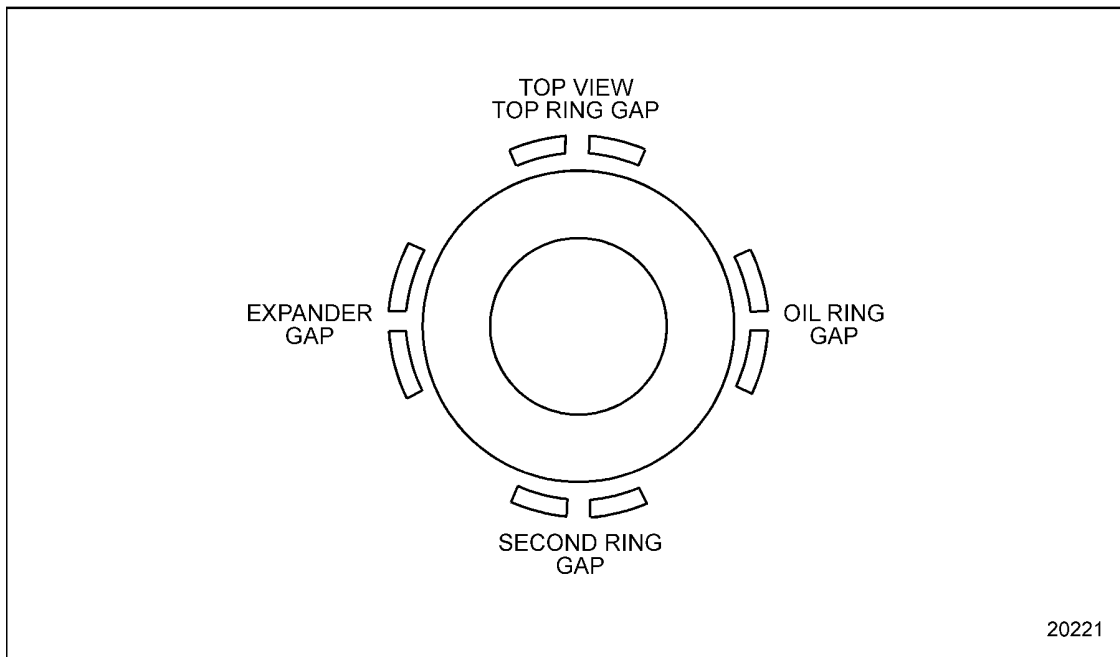
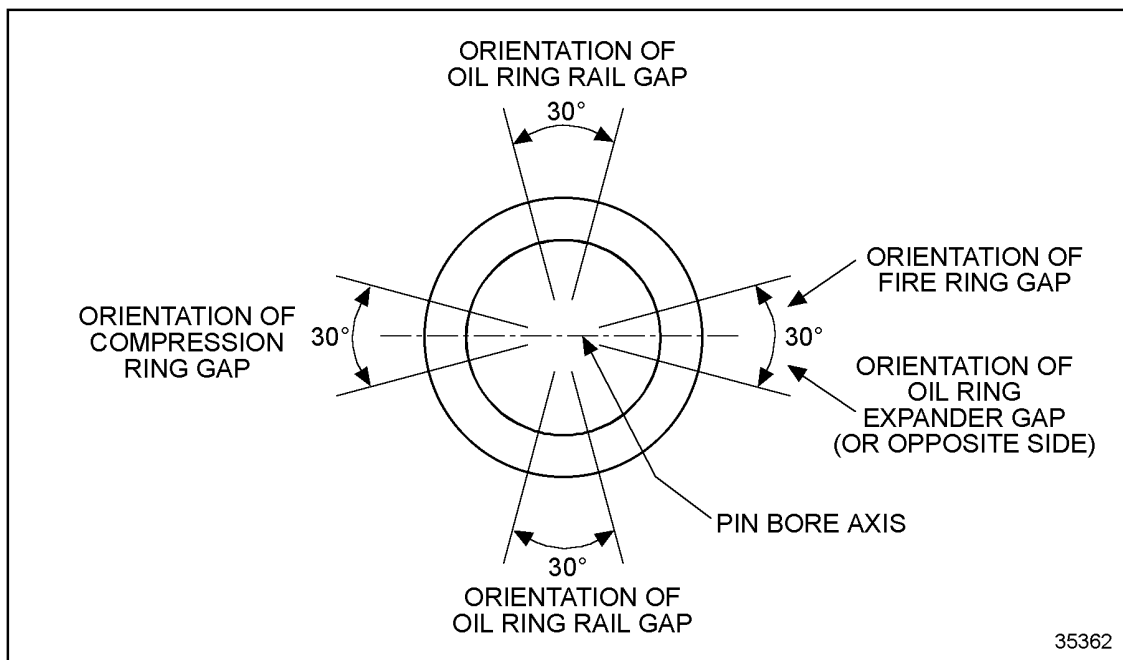

Figure 1-244 Piston Ring Positioning (Diesel)
Figure 1-245 Piston Ring Positioning (Natural Gas)
4. Position (stagger) the piston ring gaps properly on the piston at 90° intervals. See Figure 1-244 for diesel and see Figure 1-245 for natural gas engines.